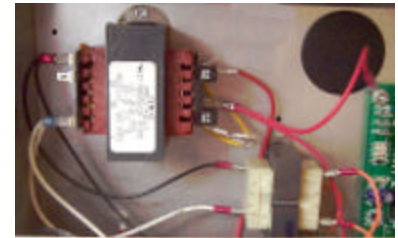

Fig: 10-9
3. Remove all wiring from the terminals of the transformer to be replaced, carefully noting where the wires are attached. **Fig: 10-9**